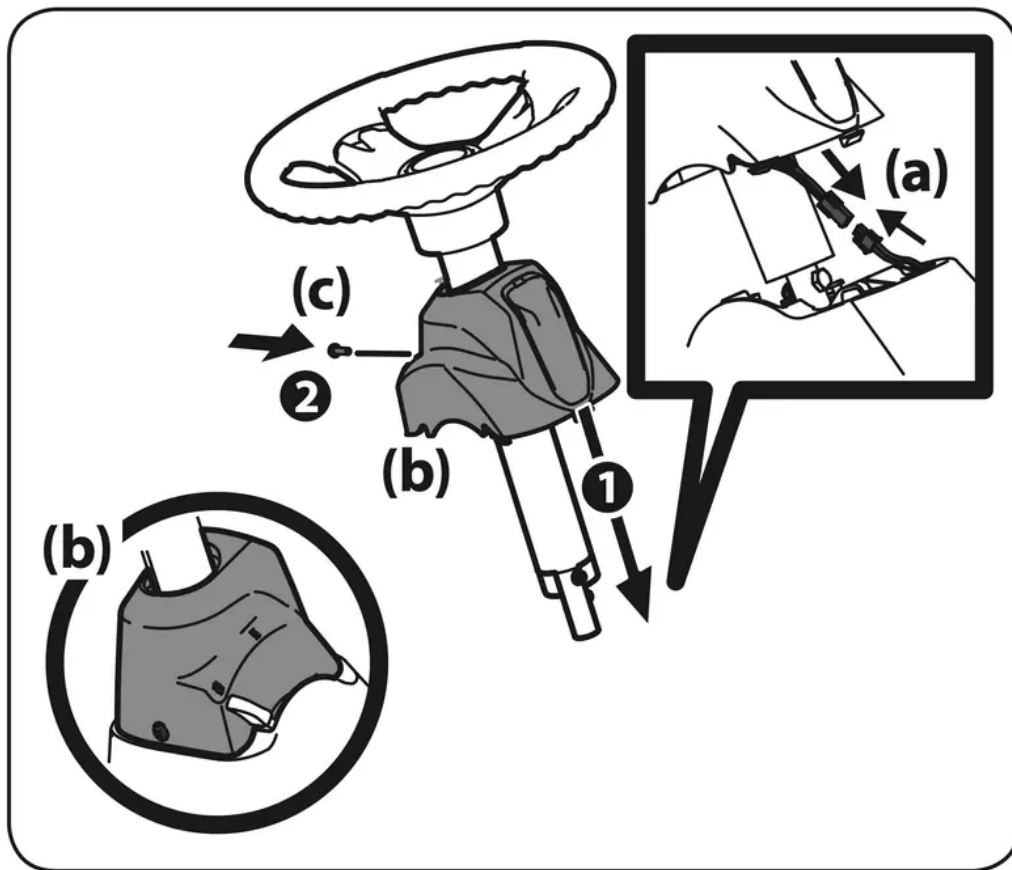

Figure 3
6. Remove the pedestal cap mount screw factory installed and located on the tractor's steering console. Retain the screw for later instructions. See Figure 3.
7. Connect the headlight wire terminals (a). Slide the pedestal cap (b) down onto the tractor and slightly rotate to the right to clip into place. Secure the pedestal cap (b) with the screw (c) previously removed. See Figure 3.